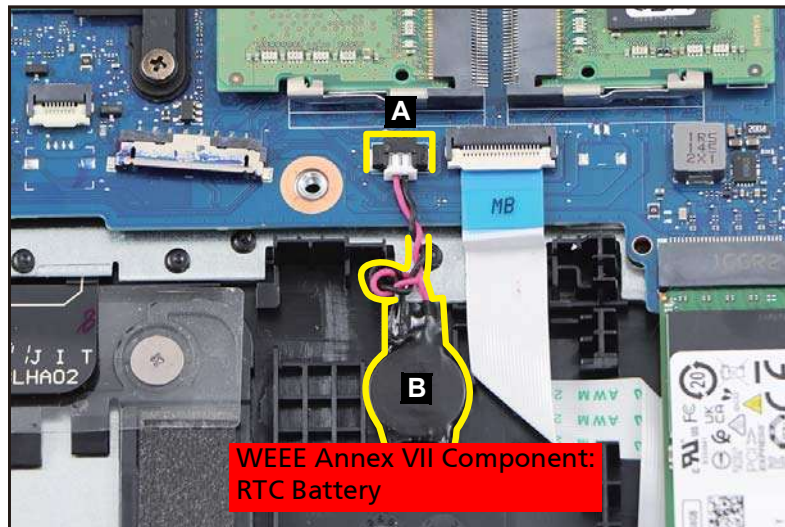

Figure 3-10. RTC Battery Removal
1. Disconnect the RTC battery cable from the mainboard connector (A) (Figure 3-10).
2. Unroute the RTC battery cable from the cable guides as shown in Figure 3-10.
3. Using plastic tweezers, carefully pry to detach the adhesive tape underneath the RTC battery (B). Then remove the RTC battery (Figure 3-10).